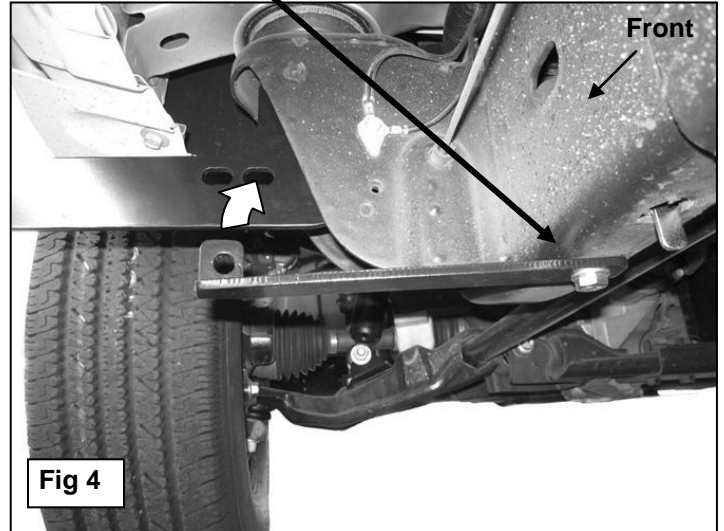
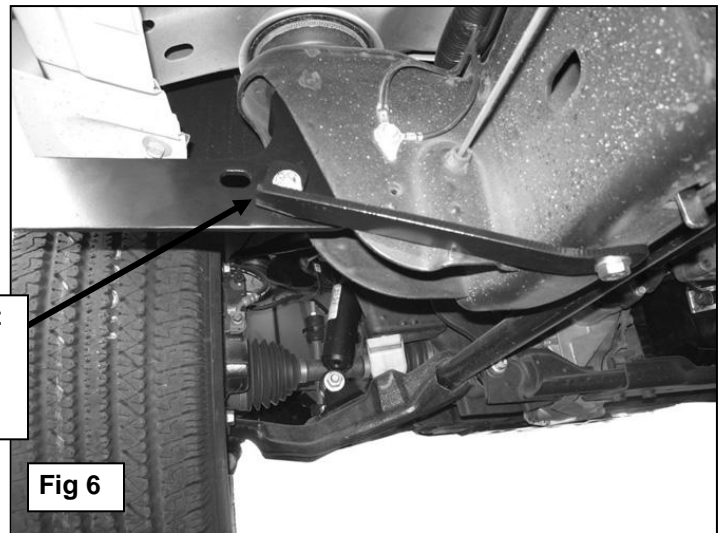

Fig 4
Fig 6
Note that the Front Support Bracket will not reach up to the Mounting Bracket, **(Figure 4)**. Tighten the Support Bracket to the Nut Plate in the frame. Carefully push up on the Support Bracket until it reaches the inside hole in the Mounting Bracket, **(Figure 5)**. Bolt the Support Bracket to the hole in the Mounting Bracket with (1) 10mm x 30mm Hex Bolt, (2) 10mm Flat Washers, (1) 10mm Lock Washer and (1) 10mm Hex Nut, **(Figure 6)**. Do not tighten at this time.